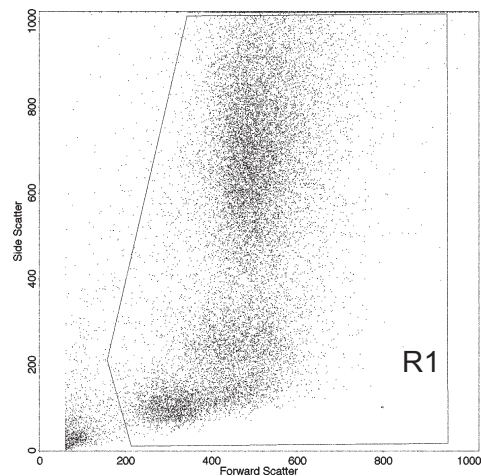

Figure 1a. FSC vs. SSC. Region R1 is drawn to encompass all nucleated cells.
- Create a Forward Scatter (FSC) vs. Side Scatter (SSC) dot plot. Create a region R1 that will encompass the nucleated cells based on scatter (see Figure 1a).
- In set-up mode, place a DEAB control sample on the cytometer; on the FSC vs. SSC plot, adjust FSC and SSC voltages and/or gains to center nucleated cell population within the plot. Adjust the R1 region to encompass the nucleated cell population based on scatter (see Figure 1a).